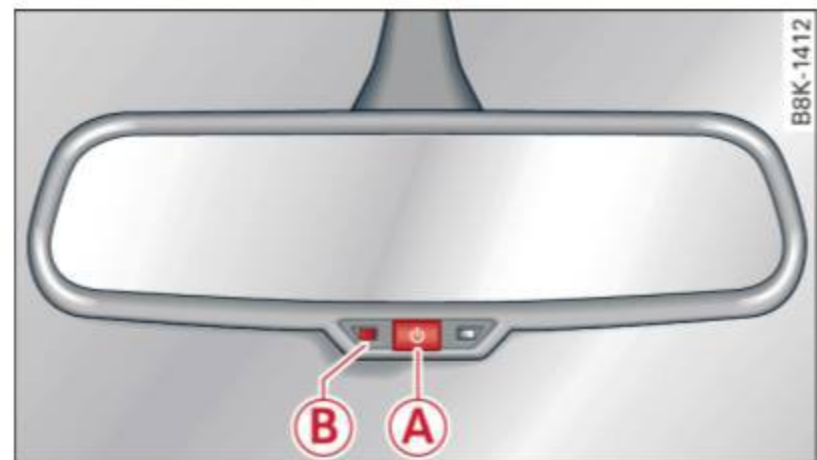

Fig. 47 Automatic dimming rearview mirror*
- ▶ Press the button (A) ⇒ *fig. 47*. The indicator light (B) turns on. The rearview and exterior* mirrors dim automatically when light shines on them, for example from headlights on a vehicle to the rear.